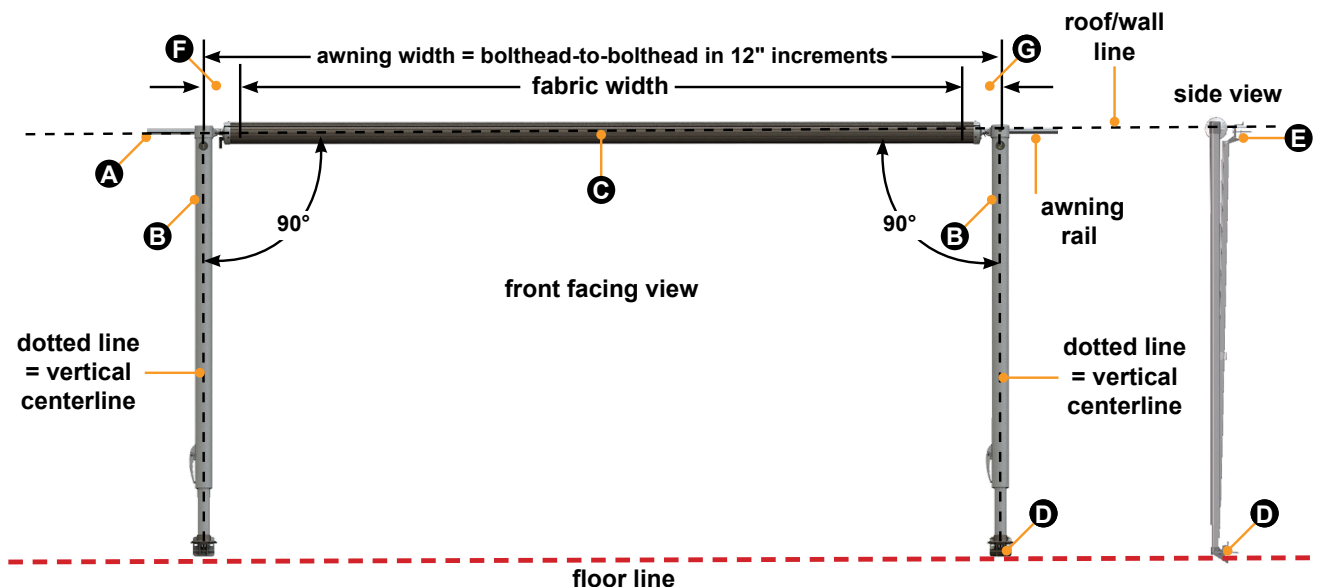

Fig.2
A. Sidewall Mounting - Position the awning rail along the line where roof and wall meet, or a minimum of 4" above doors or windows (Fig.2).
NOTE: The awning rail must be level and parallel with the floor line of the unit (Fig.2).
4. Measure and confirm the width of the awning. The distance is measured from centerline of support arm assembly to the opposite centerline of the other support arm assembly (Fig.2).
2. Using a non-permanent method of marking, mark a perpendicular line from the mark on the awning rail down to the floor line. This is the centerline of the support arm assembly (Fig.2). Do this for both support arm assemblies.
2. Make sure the roll tube centerline is level with or slightly higher than the awning rail centerline (Fig.2). The bottom of the roll tube **MUST** not be higher than the awning rail.